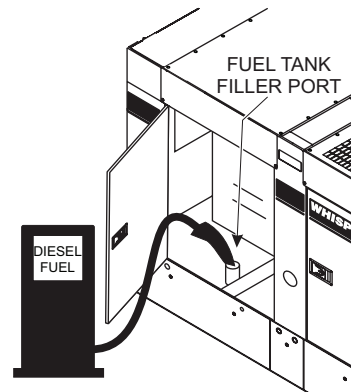

Figure 27. Fueling The Generator
2. Open cabinet doors on the “right side” of the generator (from the generator control panel position). Remove the fuel cap and fill the tank (Figure 27).